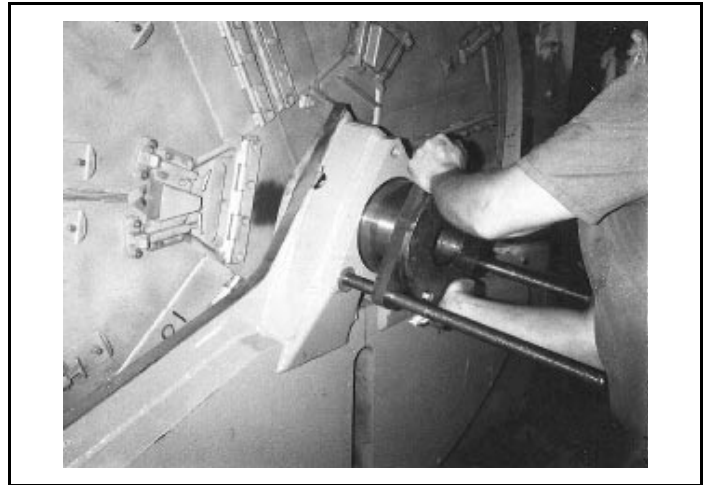

FIGURE 8 (MSSM0303AE)
7. With a clean, lint free cloth, apply a coating of light machine oil to the outside of the housing, to assist in installation. Push the housing into the shell as shown in FIGURE 8. Once the housing is far enough into the shell to support itself, place any shims back into position between the housing and the shell. Remove, then replace guide rods if required to place shims under bearing housing pads.